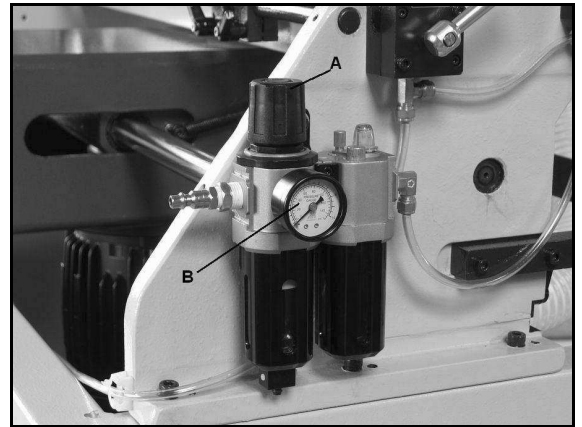

Figure 11
The pressure exerted by the cylinder clamps against the workpiece can be adjusted at the air regulator, shown in Figure 11. The hardness or softness of the wood will determine the amount of clamping pressure desired. Enough pressure should be used to prevent the workpiece from slipping during operations. Forty (40) psi is suitable for clamping most wood; going above that is not recommended.
To change the clamping pressure, pull up on the knob (A, Figure 11) and rotate it; clockwise to increase pressure, counterclockwise to decrease pressure. The attached needle indicator (B, Figure 11) shows the air pressure. Lock the setting by pushing the knob (A, Figure 11) back down.